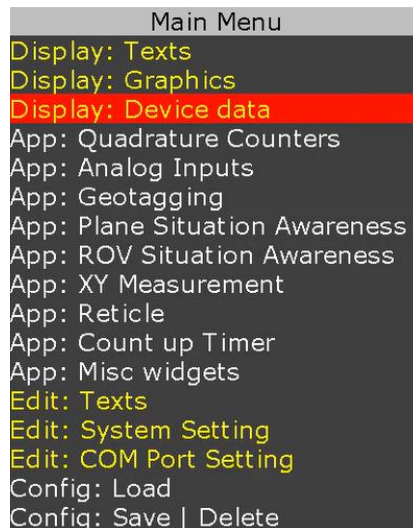
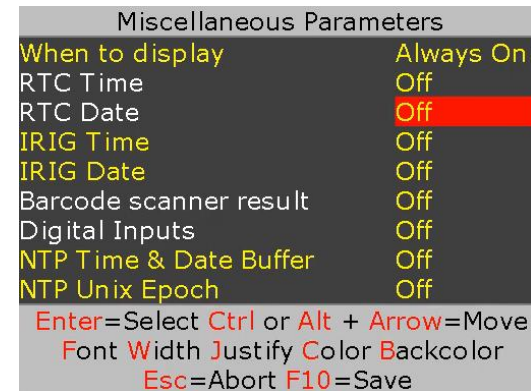

Figure 11
Figure 13
2. Follow *Figure 11 - Figure 13* to insert the desired parameter
3. On *Figure 13*, use \updownarrow arrow keys to select "RTC Time"